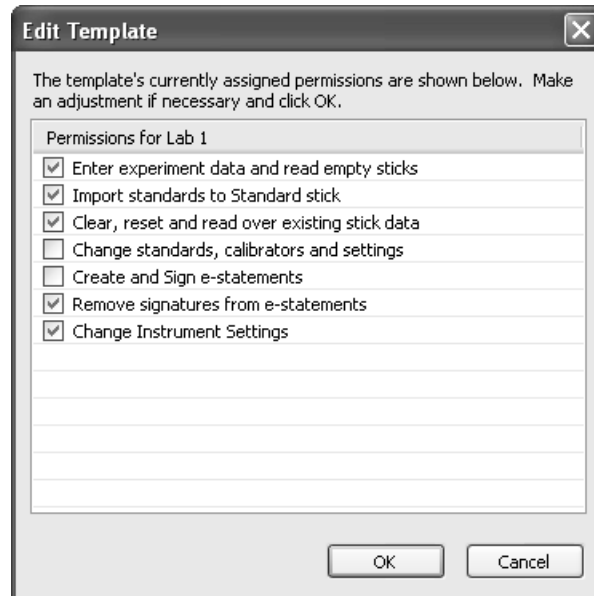

Figure 8-12: The Edit Template Screen
- 4) Click **Edit Template**. This opens the **Edit Template** dialog (Figure 8-12).